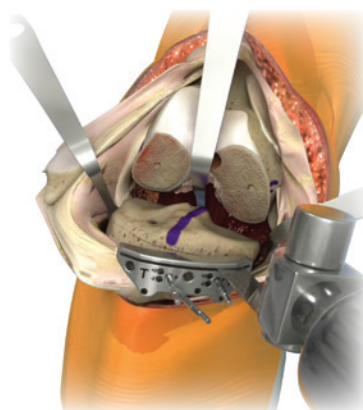

Figure 37
11. Resect the proximal tibia using an oscillating saw (Figure 37).